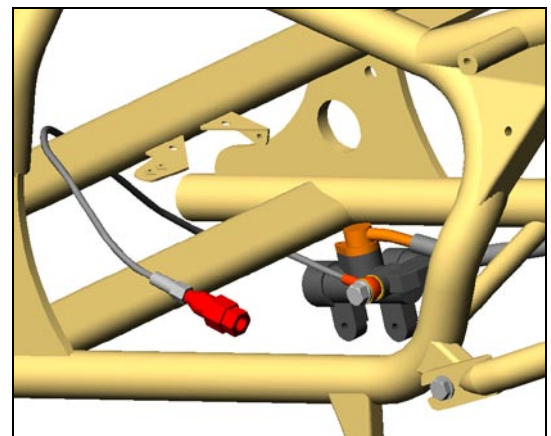

Figure 16
- h. Install the supplied braided line (**23.5" L with banjo fitting and female end**) to rear master cylinder inside port.. Route as shown (under lower cross tube and over upper cross tube) to left side of vehicle. Figure 16.
WARNING: The arrow on the valve must face in the direction of the calipers. Figure 16